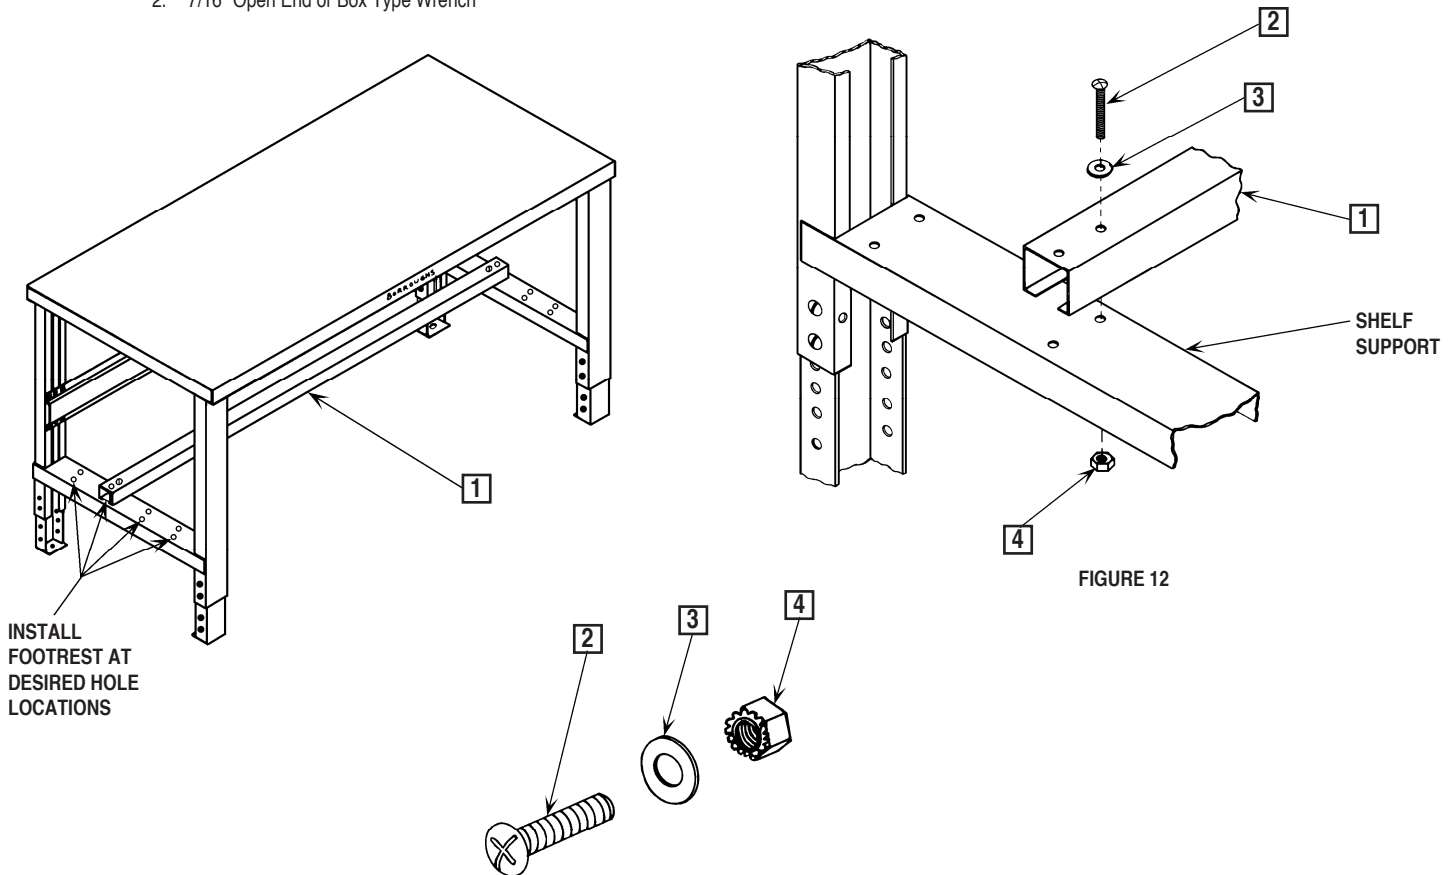

FIGURE 12
Place the footrest (Item 1) on the shelf supports between the legs of the work bench with the open area of the footrest channel facing downward. See Figure 12. Position footrest so that the inner holes, in each end of the footrest, are in line with the inner holes in each shelf support. (NOTE: The footrest can be positioned at any one of the four hole locations in the shelf supports). Fasten the footrest to the shelf supports with (2) screws, washers and nuts (Items 2, 3 & 4) as provided, one each end. See Figure 12.